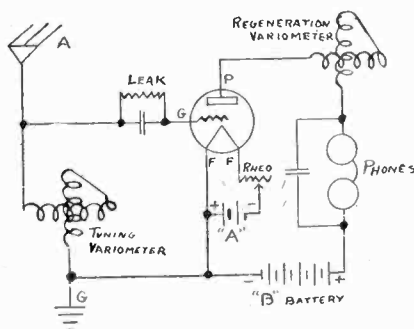

Fig. 1. Set Hard to Work
**Answer.** The two variometer hook-up is shown in Fig. 1. The first of these units is employed as a tuner for the input, while the second one is hooked up in the plate circuit to control the amount of feedback or regeneration. As you say, the control of this action is not very satisfactory with this hook-up. To change the set over, it will be necessary